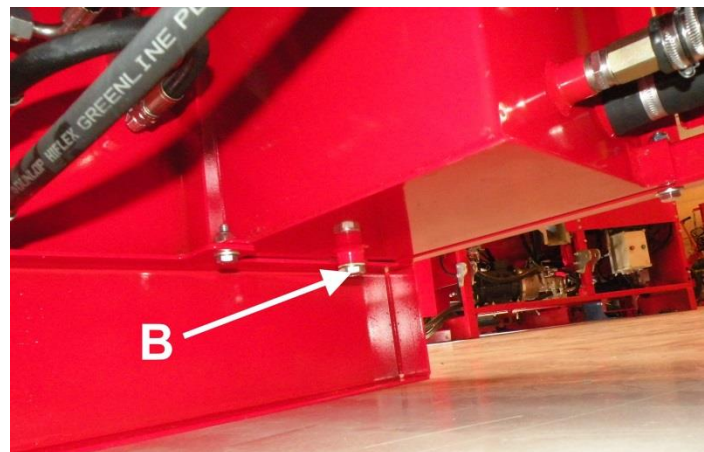

Figure 29.
3. Open drain plug B in Figure 29 and drain the oil into a suitable container.